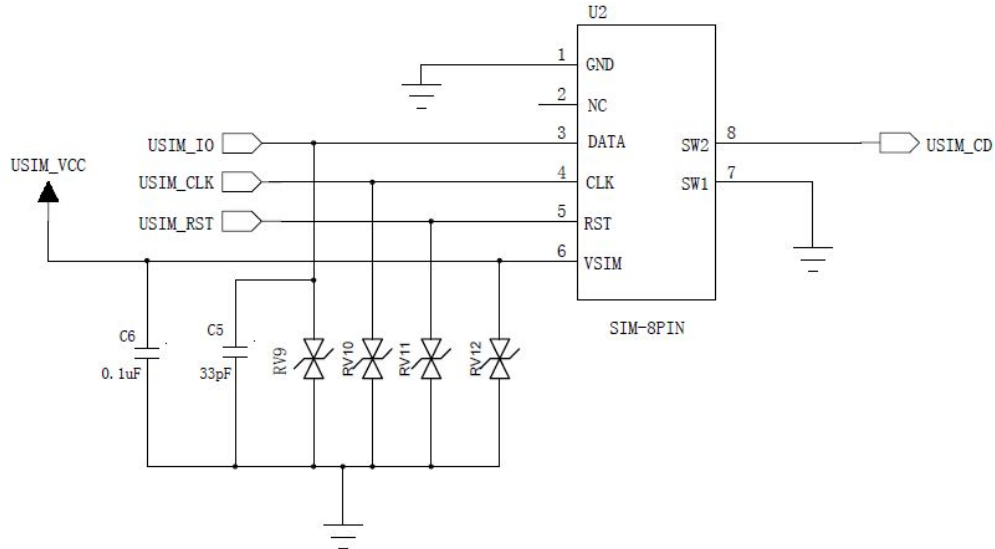

Figure 5-8 Reference Design of “Normally Closed” SIM Card Interface
- For “Normal closed” SIM card, as shown in the figure5-8, USIM\_CD signal line is connected to U2's Pin8 (SW2), and Pin7 (SW1) is connected to the ground. When the SIM card is not inserted, SW2 and SW1 short circuit, SW2 will be at low level. When the SIM card is inserted, SW2 and SW1 will be disconnected, USIM\_CD level will be pulled up.